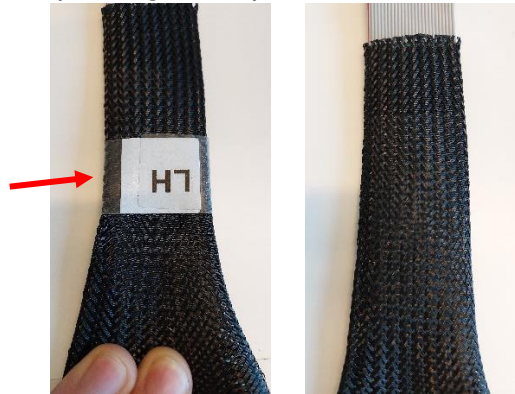

Figure 36. Label removal.
- 2) Remove the cable label (See figure 36).